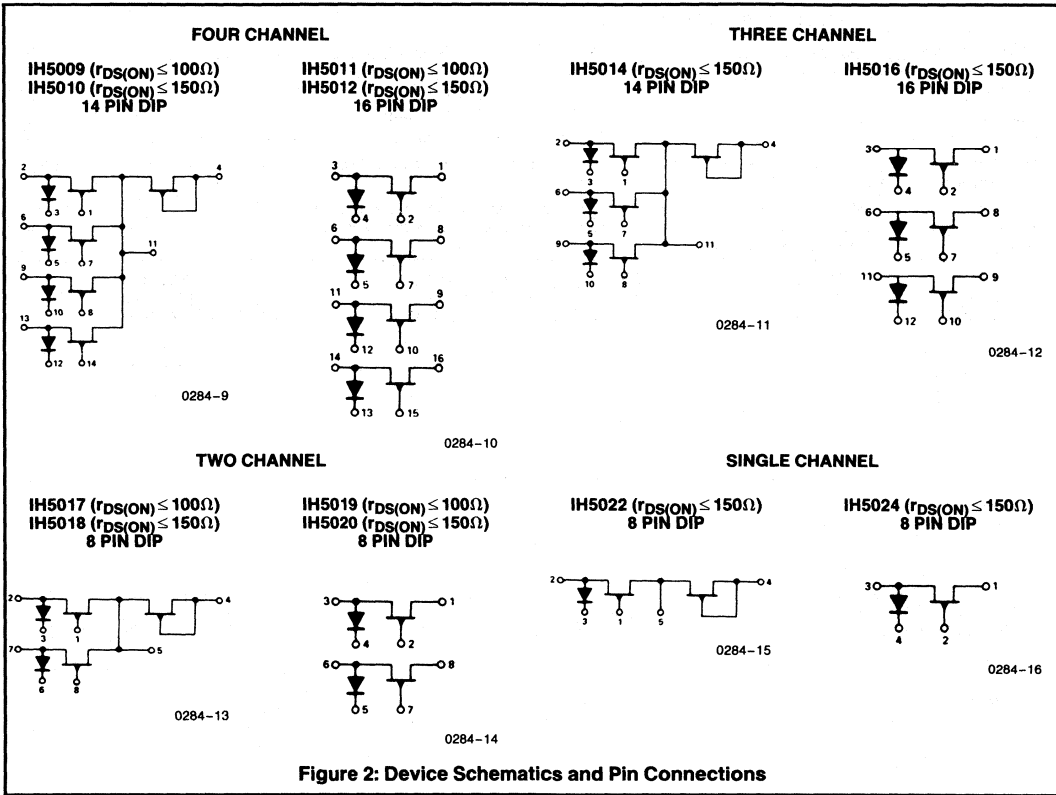

Figure 2: Device Schematics and Pin Connections
- NOTES:** 1. (OFF) and (ON) subscript notation refers to the conduction state of the FET switch for the given test.
2. Refer to Figure 2 for definition of terms.